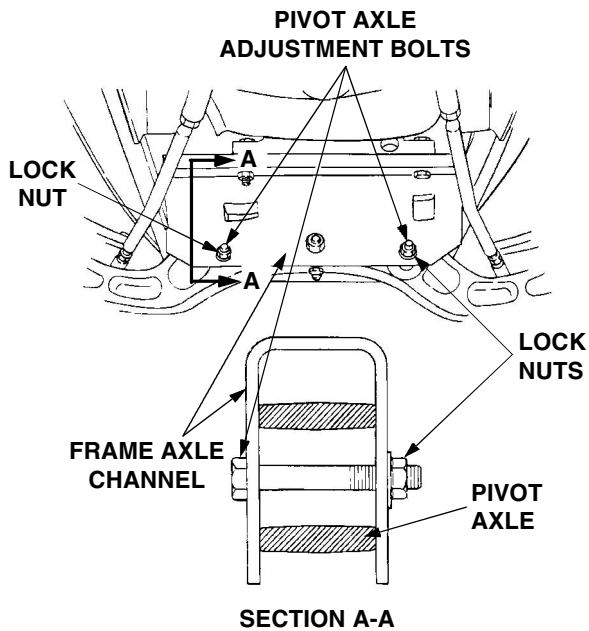

Figure 6-6
2. Pivot the ends of the axle up and down to check for binding. If the axle is binding, loosen the lock nuts (See Figure 6-6) until binding is eliminated.